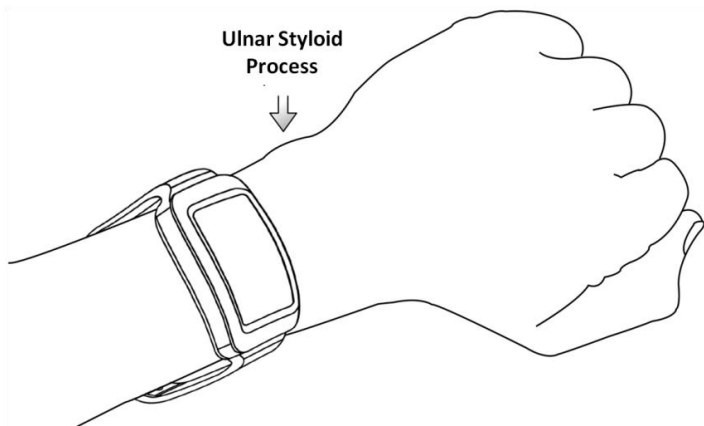

Figure 8. Position Adjustment during Measurement
The mode is for the monitoring of Pulse Rate (PR) and blood oxygen saturation (SpO₂). Make sure the device is worn properly, as illustrated in **Figure 8**, before starting the measurement.
- Make sure the device sit on your wrist skin, **slightly above the wrist bone** (ulnar styloid process), as illustrated in **Figure 8**.
Suggest the user to adjust the device position as illustrated in **Figure 8** for better signal reading.